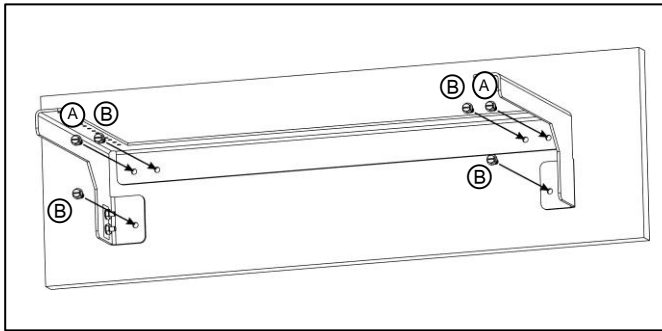
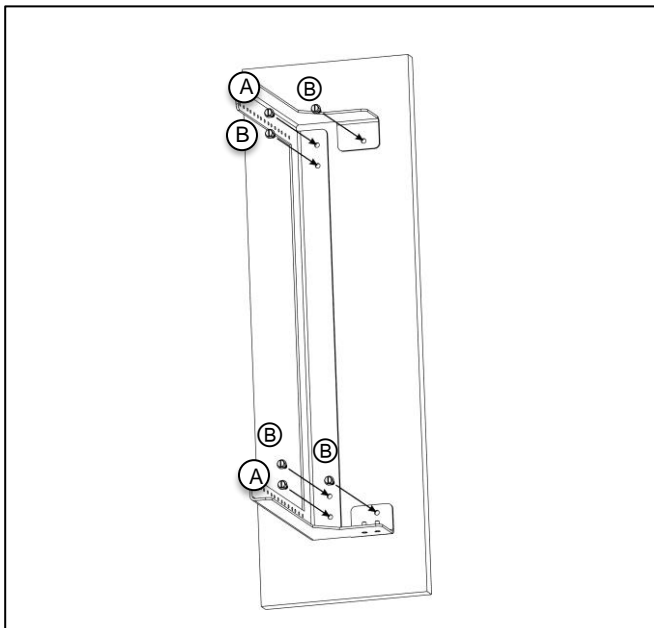

Figure 2. Horizontal mounting on backboard
Figure 3. Vertical mounting on backboard
- ① Select an appropriate location to install the WMB-5U ensuring adequate area for the equipment to be placed on the rack. Mounting to a 3/4" thick backboard with the included hardware ensures that the combined weight of the WMB-5U and equipment can be supported.
- ② Determine the desired orientation. Use the appropriate figure, Figure 2 or Figure 3 for the remaining installation steps.
- ③ Using the WMB-5U as a template, mark the two locations identified as Ⓐ in Figures 2 or 3. These locations are 18" apart and in-line. Drill two 5/32" pilot holes.
- ④ Hold the back of the bracket firmly against the mounting surface mating the pilot holes with the locations marked as Ⓐ in Figure 2 or 3. Install two of the included 1" wood screws.
- ⑤ Drill four additional 5/32" pilot holes at locations marked as ⓐ in Figure 2 or 3 and install the remaining four 1" wood screws.